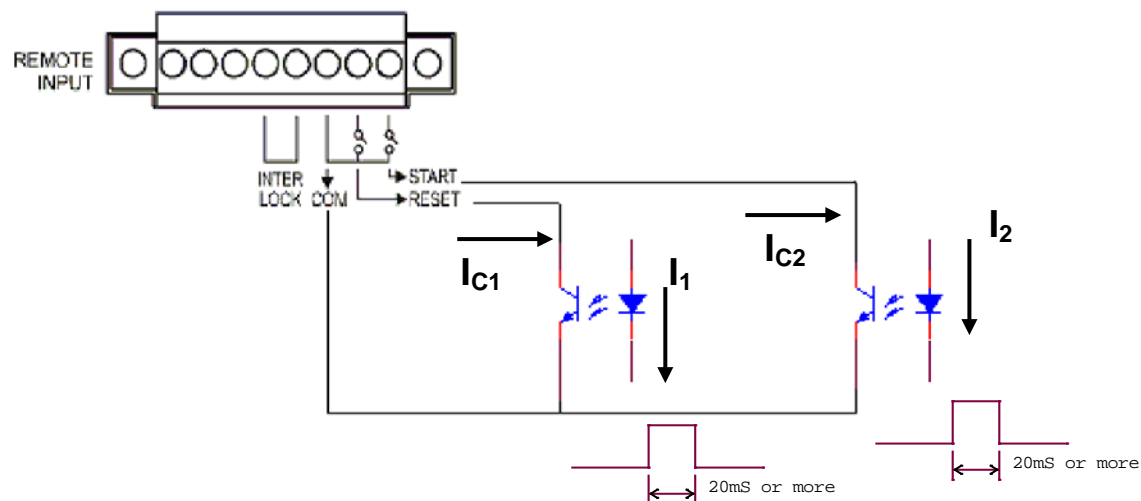

Figure 4-18
3. Some logical components such as transistor, FET, coupler. Also can be used to connect as control circuit as *Figure 4-18*. The connecting signal and circuit as *Figure 4-18*. Only the circuit includes the following statuses, it can control the main unit.
4. The relay switch control as *Figure 4-16* and photo-coupler control as *Figure 4-18* are controlled by component contact. It is effective to avoid error operation system which caused by interference. Although the main unit has a lot of preventions, it is necessary to be careful that interferences result from setting measurement system.